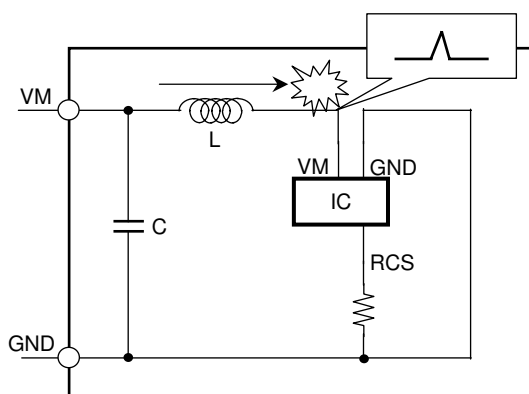

Fig. 4 Depreciated PCB
A high current flows into the line between the VM1 (Pin 1) and VM2 (Pin 15) pins. Therefore, noise is generated with ease at the time of switching due to the inductance (L) of the line, which may result in the malfunctioning or destruction of the LSI. (Fig. 4)